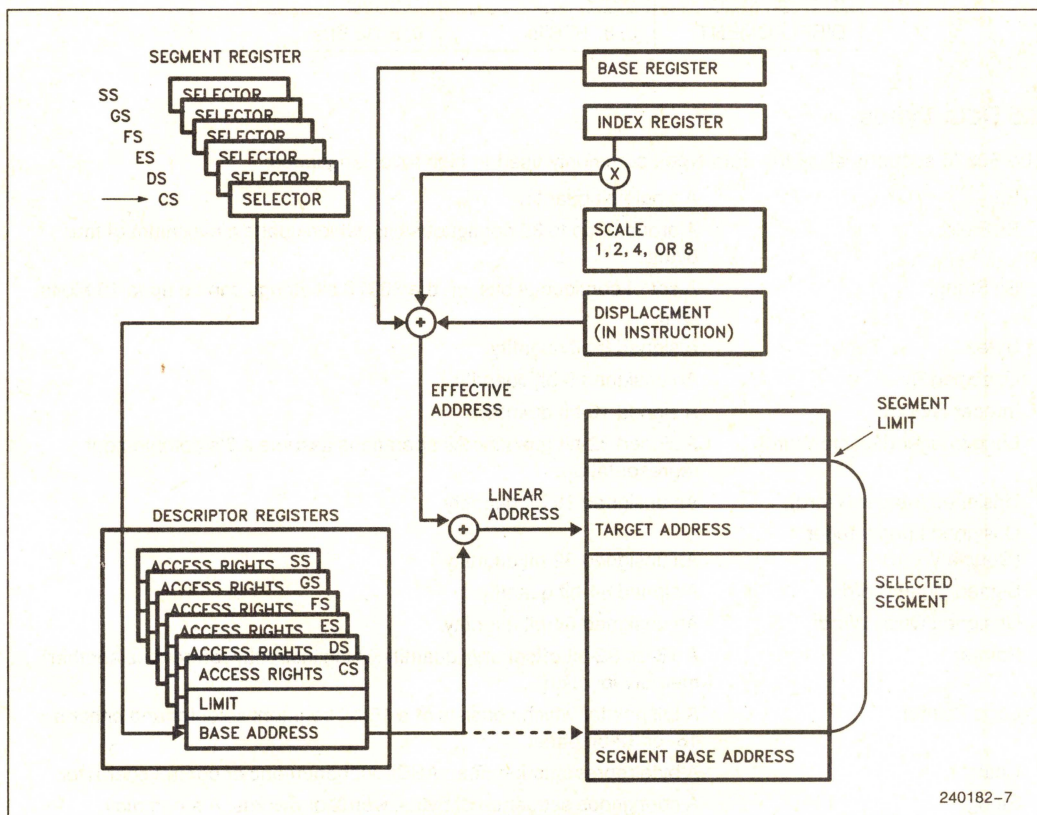

Figure 2.4. Addressing Mode Calculations
As shown in Figure 2.4, the effective address (EA) of an operand is calculated according to the following formula: